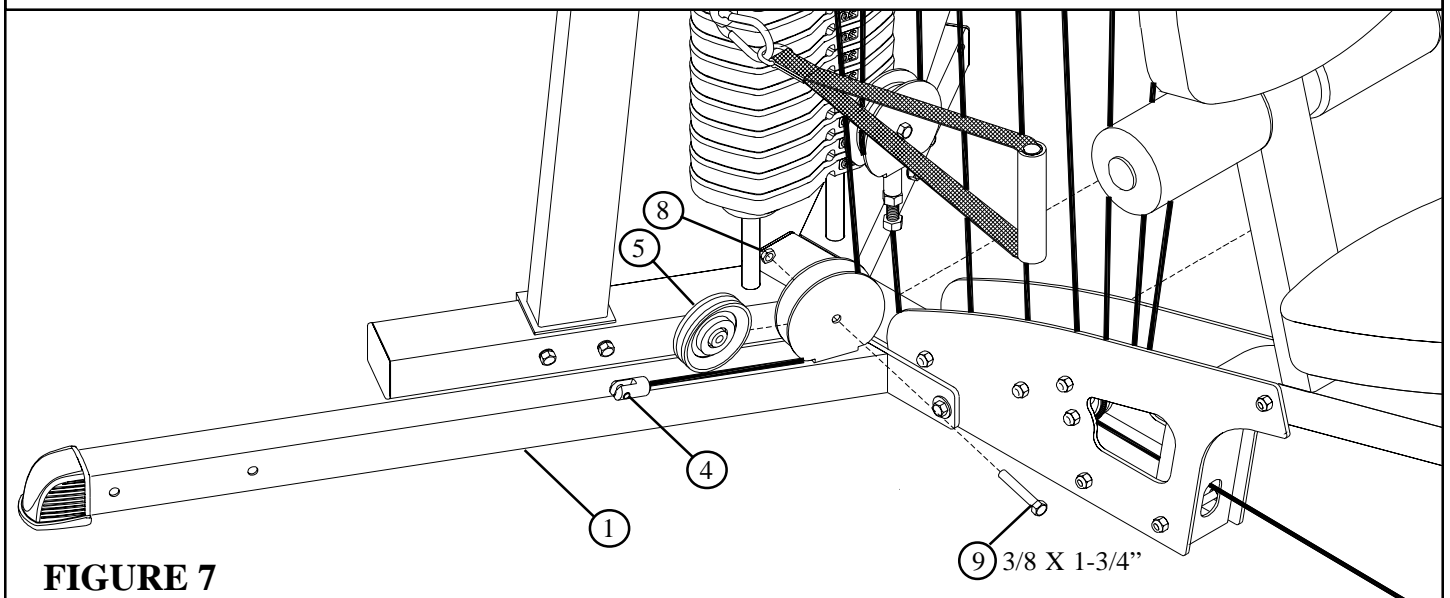

FIGURE 7
- Carefully route the LEG PRESS CABLE (4) around one 3-1/2" PULLEY (5) and **SECURELY** assemble the 3-1/2" PULLEY (5) to the LEG PRESS ADAPTOR (1) using one 3/8 X 1-3/4" BOLT (9) and one 3/8" LOCK NUT (8). See FIGURE 7.